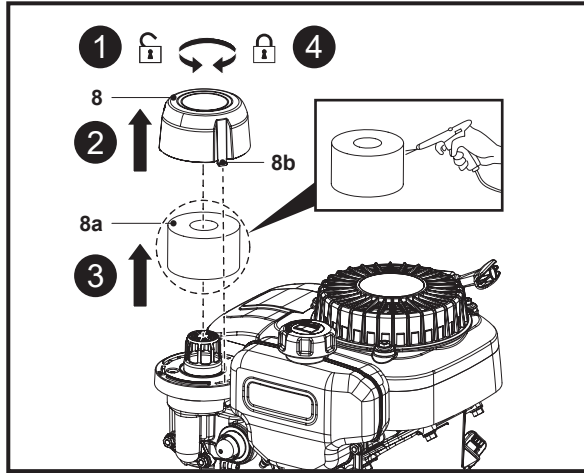

Fig. 19
2. Hold and rotate the air filter cover (8) anti-clockwise to disengage it, then remove it afterwards (Fig. 19, steps 1, 2).
3. Remove the air filter (8a) from the air filter base and tap it on a solid surface or blow it with air jet gun to remove dust (Fig. 19, step 3).
- Align the two locking latches (8b) with the slots on the air filter base and refit the air filter cover (8), then rotate it clockwise to secure (Fig. 19, step 4).